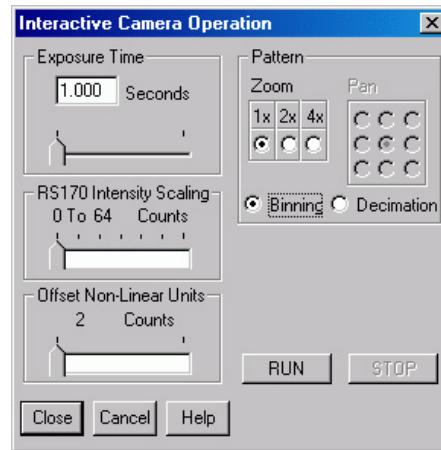

Figure 49. MicroMAX or ST-133 Interactive Camera dialog box
2. Select **Video Focus** from the Acquisition Menu. The **Interactive Camera** dialog box (Figure 49) will open.